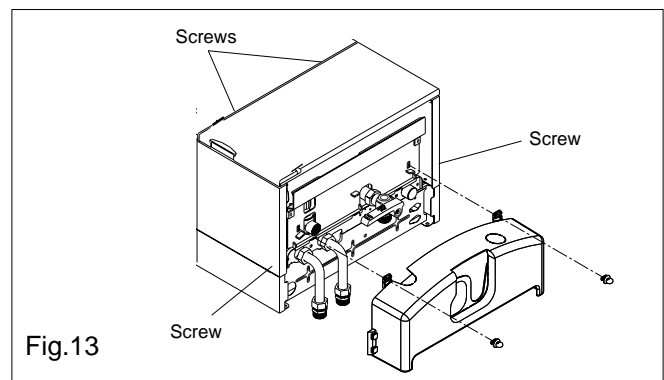

Fig.13
- locate and remove the 2 screws that secure the controls fascia to the appliance casing (see fig. 13).
- locate and remove the 2 screws that secure the casing to the back frame of the boiler (see fig. 13).